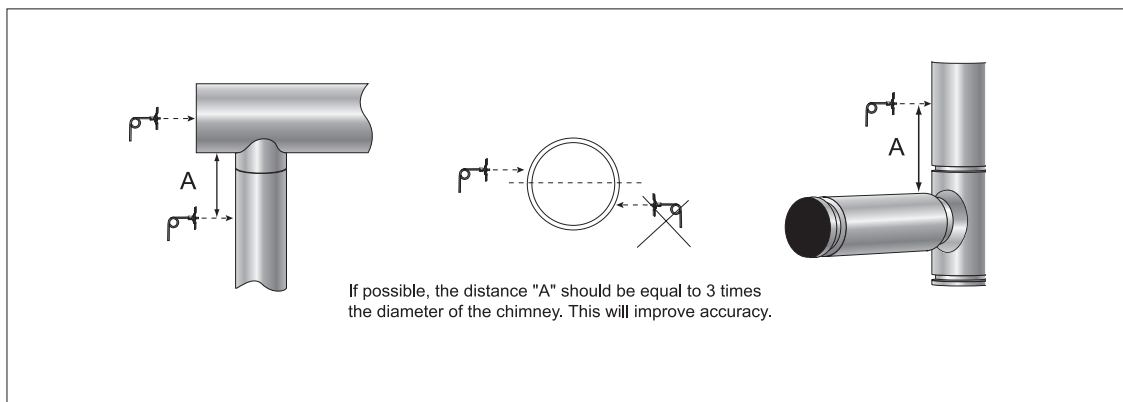

Fig. 9
- Fig. 9 shows the location of the stack probe used with the PDS-1. The stack probe should be installed in a location where there is at least 0.05" WC. The tip of the stack probe should be mounted so that it is flush with the inner wall.